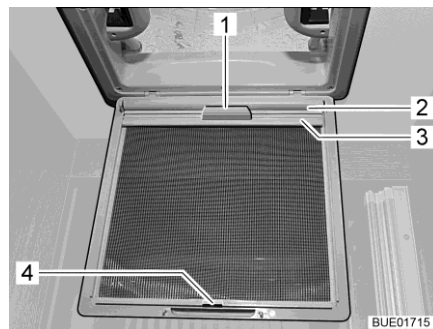

Fig. 100 Blind (skylight)
- Using the handle (Fig. 100,1), pull out the blind (Fig. 100,2) and hook the retainer (Fig. 100,3) into the hook (Fig. 100,4) on the insect screen.
- Release the retainer (Fig. 100,3) from the hook (Fig. 100,4) and, using the handle (Fig. 100,1), slowly return the blind (Fig. 100,2).